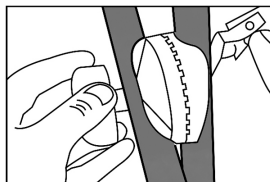
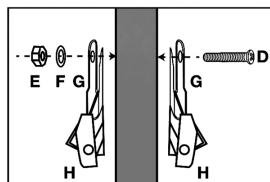

Fig. 2
Fig. 3
1. Loosen each upper adjustment knob on the carrier frame until the teeth are separated (Fig. 2).
4. Hold the cambuckle (H) by the front. Slide the end bar into the anchor loop (G) so it hangs freely. Prepare the other three cambuckles in the same way.
5. Insert a 40 x 6 mm bolt (D) through an anchor loop's (G) bolt holes. The buckle's cam is on the same side as the bolt head (Fig. 3).
8. Secure with an 18 mm washer (F) and a nut (E). Hold the bolt head in place with a 10 mm wrench and turn the nut with the other 10 mm wrench. The anchor loops must still be able to rotate freely.
10. Thread the six straps with hooks into the cambuckles. The longer straps (B) attach to the cambuckles next to the adjustment knobs. The four shorter straps (C) attached to the cambuckles you installed.